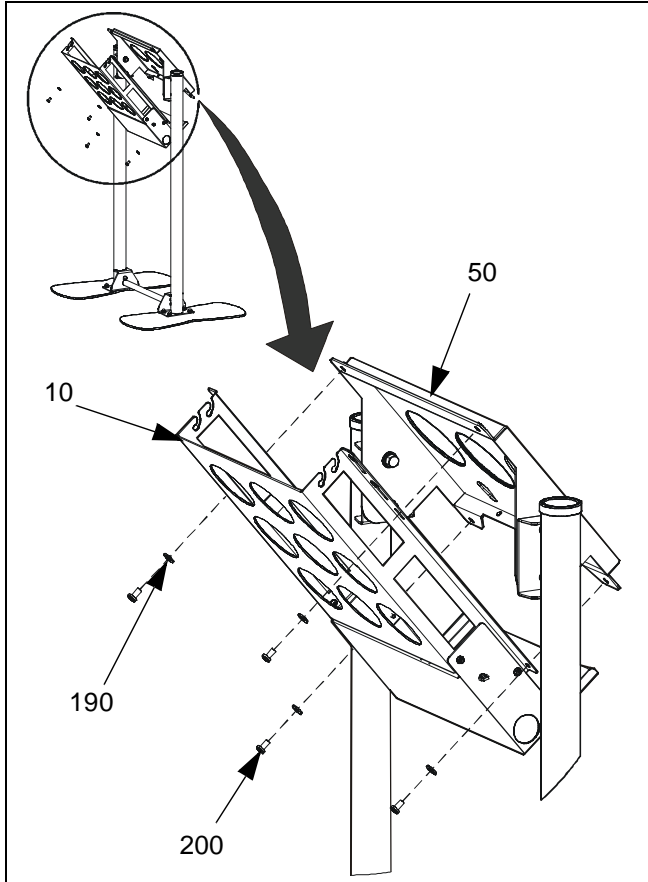

Figure 5: Assemble CPU Holder to Faceplate
1. Align mounting holes in CPU holder assembly (10) with mounting holes in faceplate (50). (see Figure 5)
2. Secure CPU holder assembly (10) to faceplate (50) using four FW (190), and four PPMS (200).